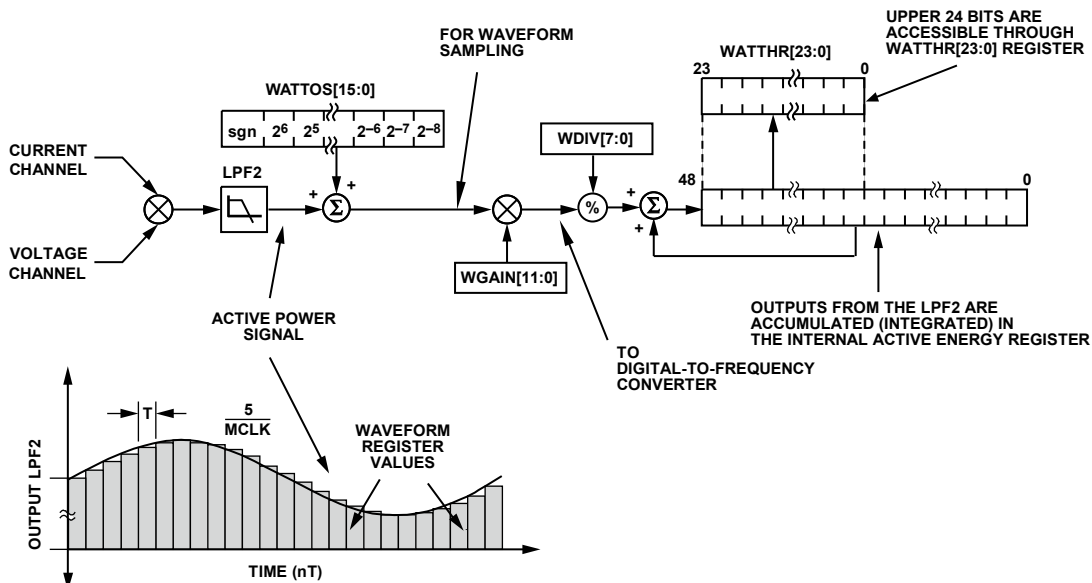

Figure 61. Active Energy Calculation
Figure 61 shows the signal processing chain for the active power calculation in the ADE5166/ADE5169. As explained previously, the active power is calculated by filtering the output of the multiplier with a low-pass filter. Note that, when reading the waveform samples from the output of LPF2, the gain of the active energy can be adjusted by using the multiplier and watt gain register (WGAIN[11:0], Address 0x1D). The gain is adjusted by writing a twos complement 12-bit word to the watt gain register. Equation 10 shows how the gain adjustment is related to the contents of the watt gain register.
The discrete time sample period (T) for the accumulation register in the ADE5166/ADE5169 is 1.22 μ s ($5/MCLK$). In addition to calculating the energy, this integration removes any sinusoidal components that may be in the active power signal. Figure 61 shows this discrete time integration or accumulation. The active power signal in the waveform register is continuously added to the internal active energy register.
The output of the multiplier is divided by the value in the WDIV register (Address 0x24). If the value in the WDIV register is equal to 0, the internal active energy register is divided by 1. WDIV is an 8-bit, unsigned register. After dividing by WDIV, the active energy is accumulated in a 49-bit internal energy accumulation register. The upper 24 bits of this register are accessible through a read to the active energy register (WATTHR[23:0], Address 0x01). A read to the RWATTHR register (Address 0x02) returns the contents of the WATTHR register, and the upper 24 bits of the internal register are cleared. As shown in Figure 61, the active power signal is accumulated in an internal 49-bit signed register. The active power signal can be read from the waveform register by setting the WAVMODE register (Address 0x0D) and setting the WFSM bit (Bit 5) in the Interrupt Enable 3 SFR (MIRQENH, Address 0xDB). Like the current and voltage channels waveform sampling modes, the waveform data is available at sample rates of 25.6 kSPS, 12.8 kSPS, 6.4 kSPS, and 3.2 kSPS.